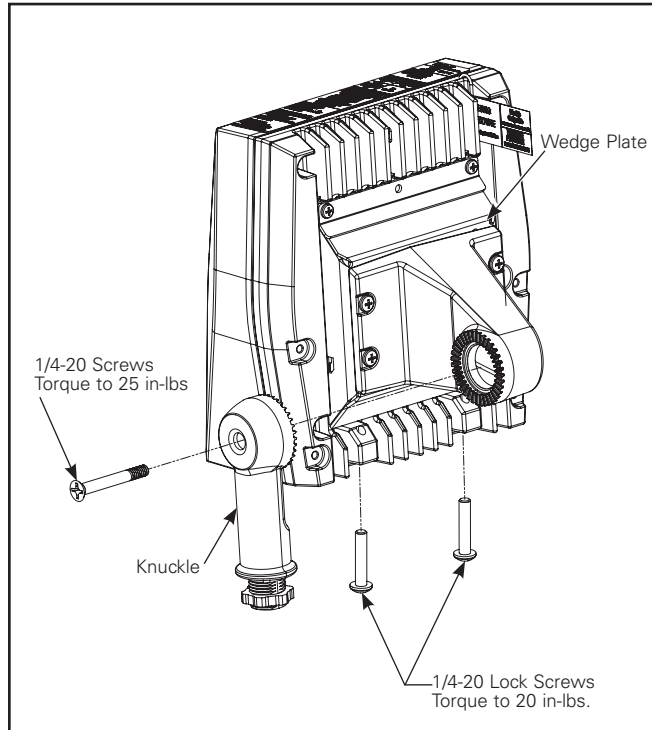

Figure 9. Axcent Small
3. Attach the knuckle mount assembly to the fixture and tighten (2) 1/4 -20 Phillips head screws to 20 in-lbs (Figure 9). Ensure that the luminaire supply leads are not pinched between the wedge plate and housing.